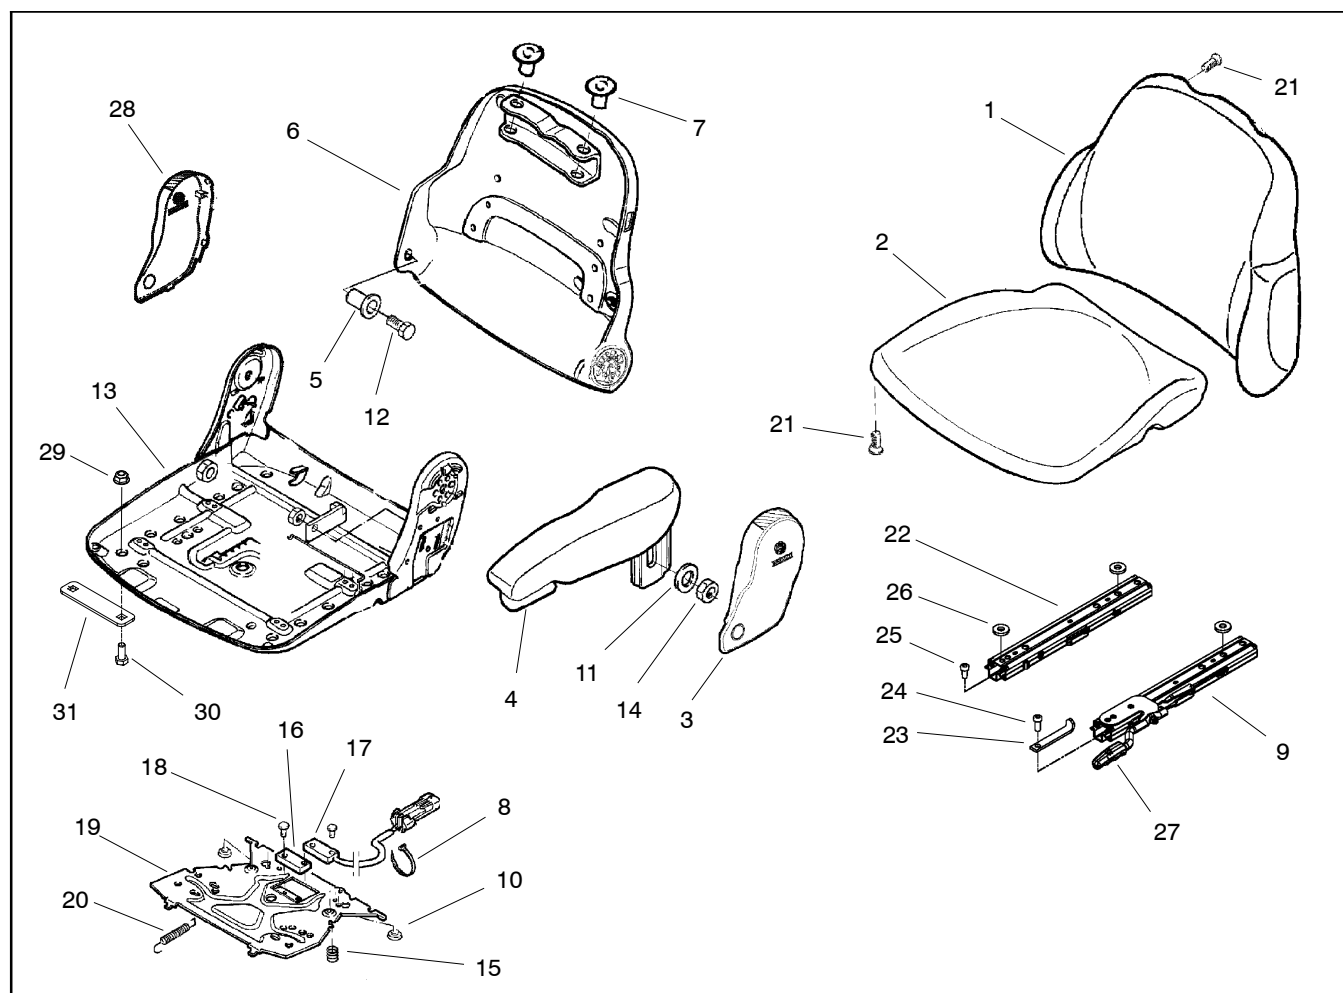

Figure 19
### **Disassembly (Fig. 19)**
2. Disassemble operator seat as necessary using Figure 19 as a guide.
### **Assembly (Fig. 19)**
1. Assemble operator seat using Figure 19 as a guide.